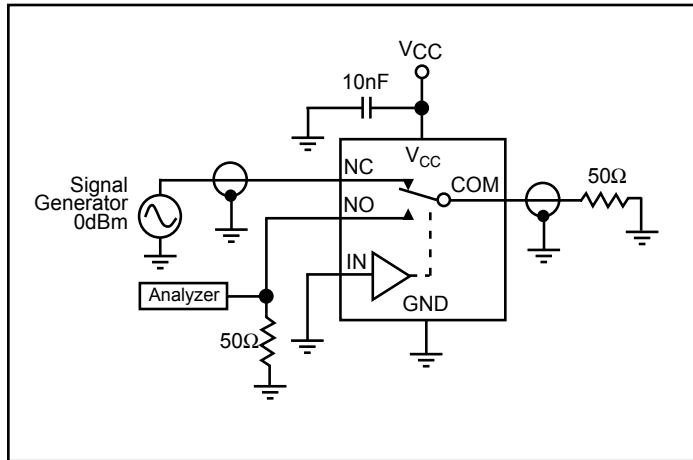

Figure 5. Crosstalk
- Between any two switches. See Figure 5